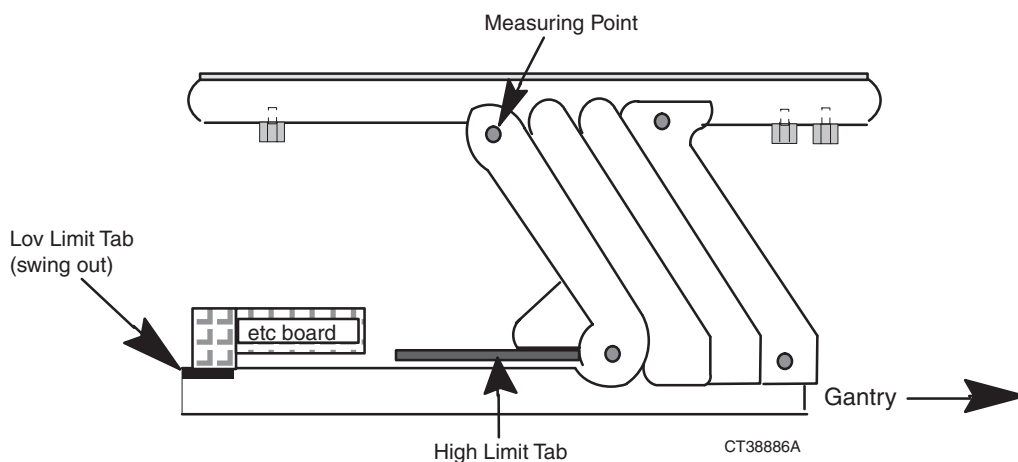

Figure 8-5 Measure Table Elevation Distance
- b.) Measure between the bottom surface of each measurement block and the center of the rear leg upper pivot pin (see Figure 8-5).